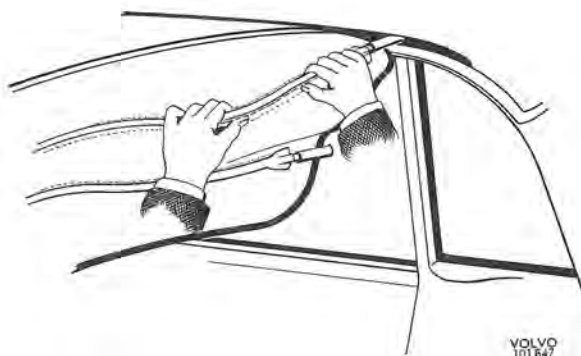

Fig. 8-43. Removing roof stretchers
4. Take down the stretchers beginning from the back by bending them down in the middle and releasing them from the edge of the roof as shown in Fig. 8-43. NOTE. Be careful when removing and fitting the stretchers. Careless handling can cause the ends to damage the roof plate.